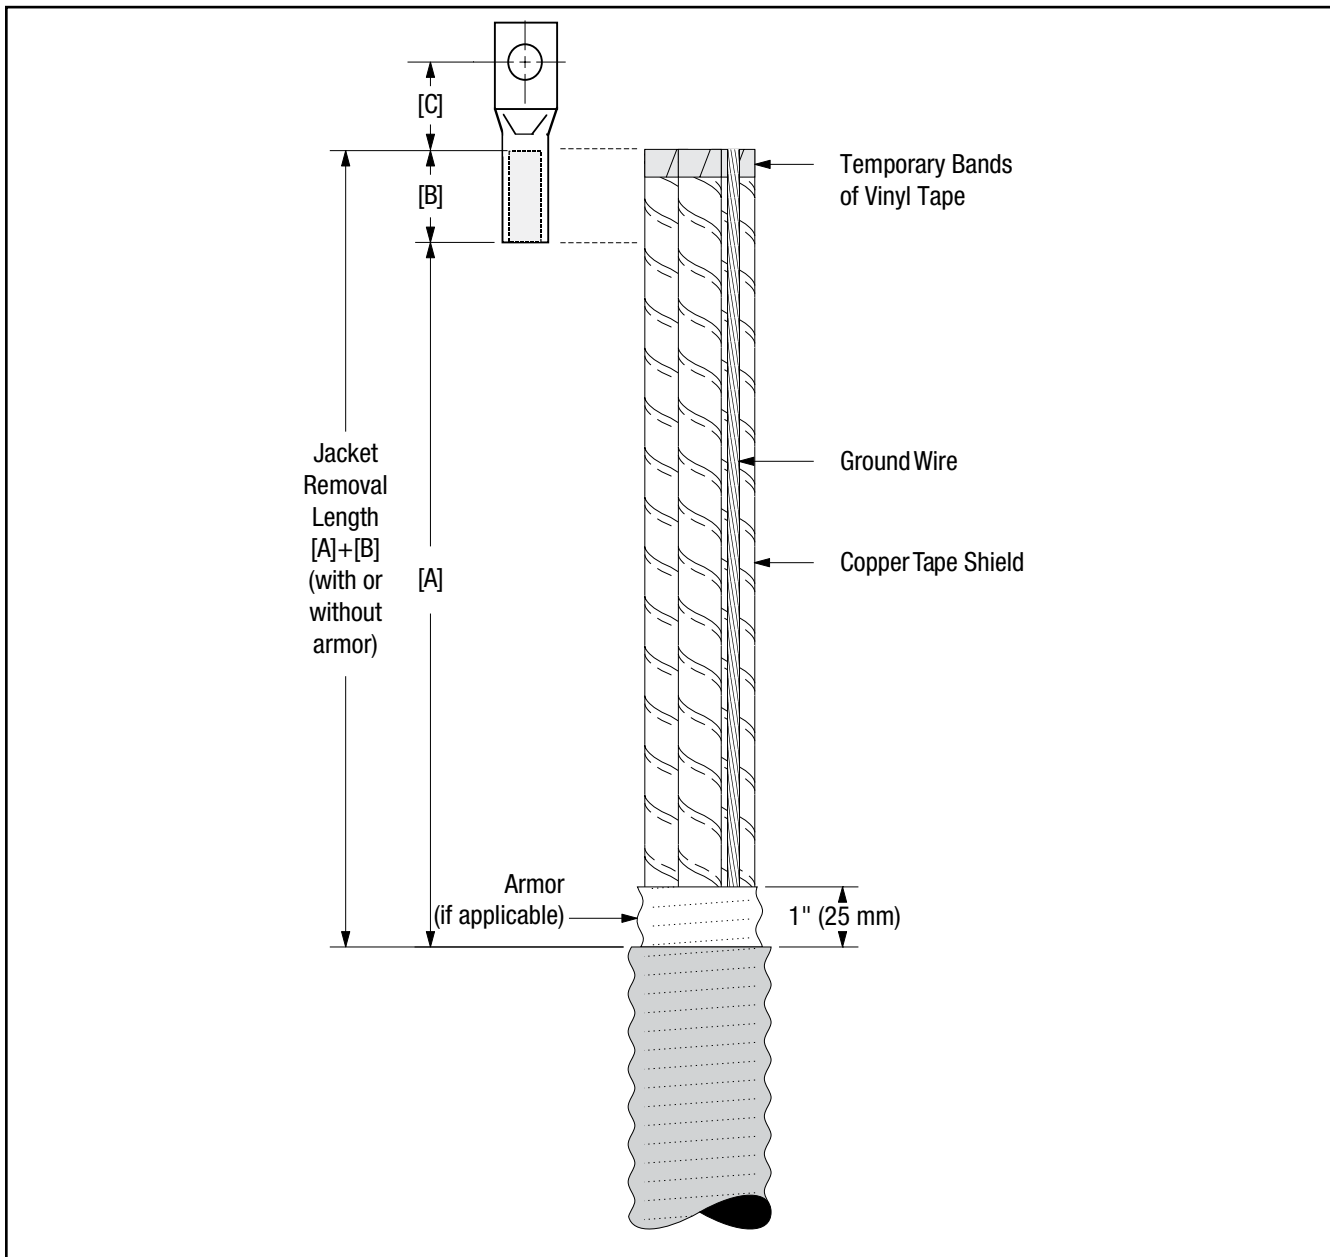

Figure 1
- 2.1 Determine phase (core) length required for correct phase spacing and bolted terminal lug connections ([A] + [B], Figure 1, based on the longest phase to be connected). Allow for dimension [C] as needed.
- 2.2 Remove cable jacket and armor, bedding (inner sheath) and core fillers, if applicable, according to Figure 1 dimensions. Secure copper tape shield ends with temporary bands of vinyl tape (Figure 1).